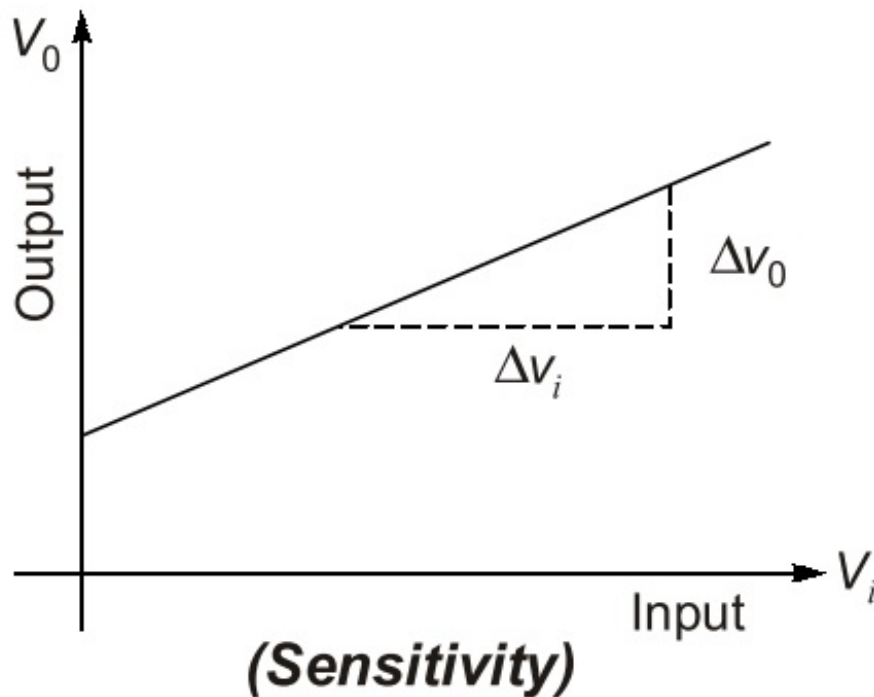

Figure 1.3: Sensitivity
3. **Static Sensitivity:** It is the ratio of the magnitude of the output signal or response to the magnitude of the input signal or the quantity being measured (Fig. 1.3).